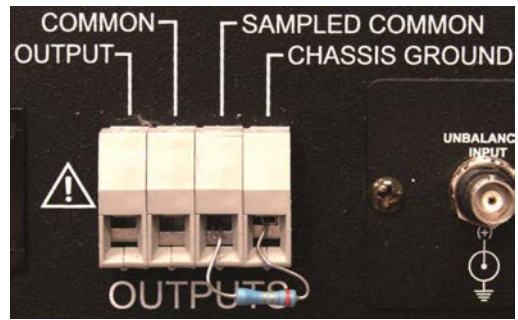

Figure 3.1 – Closeup of the Output Terminal Resistor
**NOTE:** The 2110 / 2120 amplifier comes with a factory-installed 2.7-ohm, 2W, 5%, metal-oxide resistor connecting the terminals marked “SAMPLED COMMON” and “CHASSIS GROUND” (see **Figure 3.1**). **This resistor should NOT be removed.**